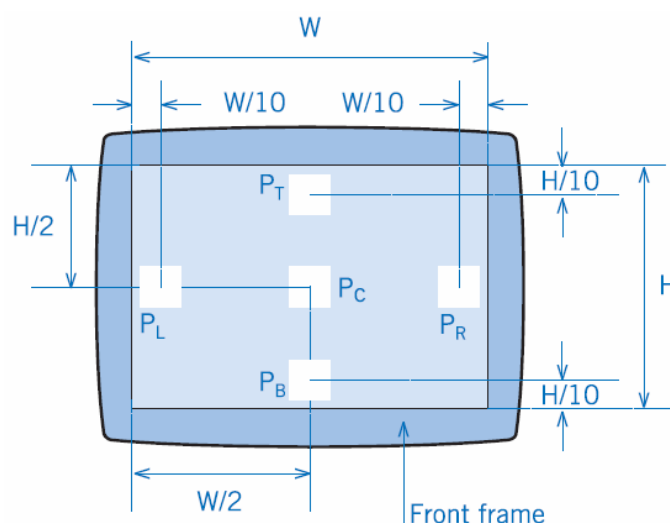

Figure1: Measurement positions for angular dependence luminance uniformity.
1. Refer to Fig.1&2, for FPDs in the horizontal direction, the mean value of the Lmax. to Lmin. ratios at ± 30 degrees shall be 1.7.
2. Refer to Fig.1&3, for FPDs in the vertical direction, the value of Lmax. to Lmin. ratio at +15 degree shall be 1.7 and the largest value of Lmax. to Lmin. ratio at ± 15 degree shall be
Refer to Fig.1&2, center point(P_c) Luminance of White(L_w) and Black(L_B) is measured at ± 30 degrees.